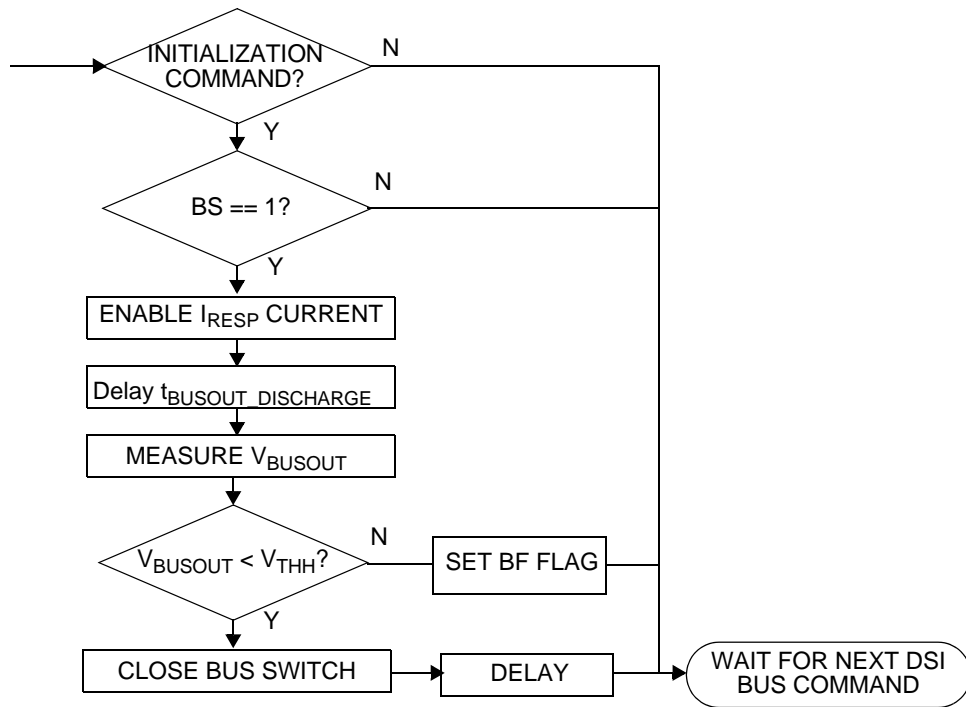

Figure 22. Initialization Sequence
**Figure 22** illustrates the sequence of operations performed following negation of internal power-on reset (POR) and execution of a DSI Initialization command. The BUSOUT node is tested for a bus short to high voltage condition, and the bus fault (BF) flag is set if an error condition is detected. If no bus fault condition is detected and the BS bit is set in the Initialization command message, the bus switch will be closed. The device implements a blanking time ( $t_{\text{DSI\_BLANK\_INIT}}$ ) to allow for the bus voltage to recover following closure of the bus switch.